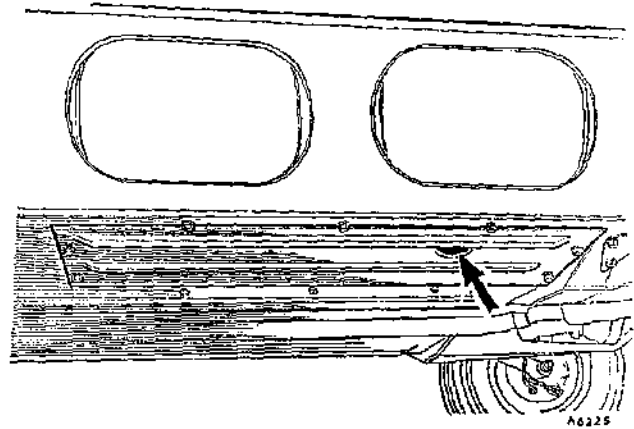

Fig. D.10
- (1) Remove the forward pannier side cover and disconnect the lead from the fuel gauge unit terminal.
- (2) Drain the fuel tank (see Fig. D.10).
- (3) Disconnect the suction hose from the fuel pump.
- (4) Remove the bottom cover-plate from the side-member.
- (5) Extract the tank-retaining screw from the top face of the side-member.
- (6) Remove the support bracket and lower the tank.